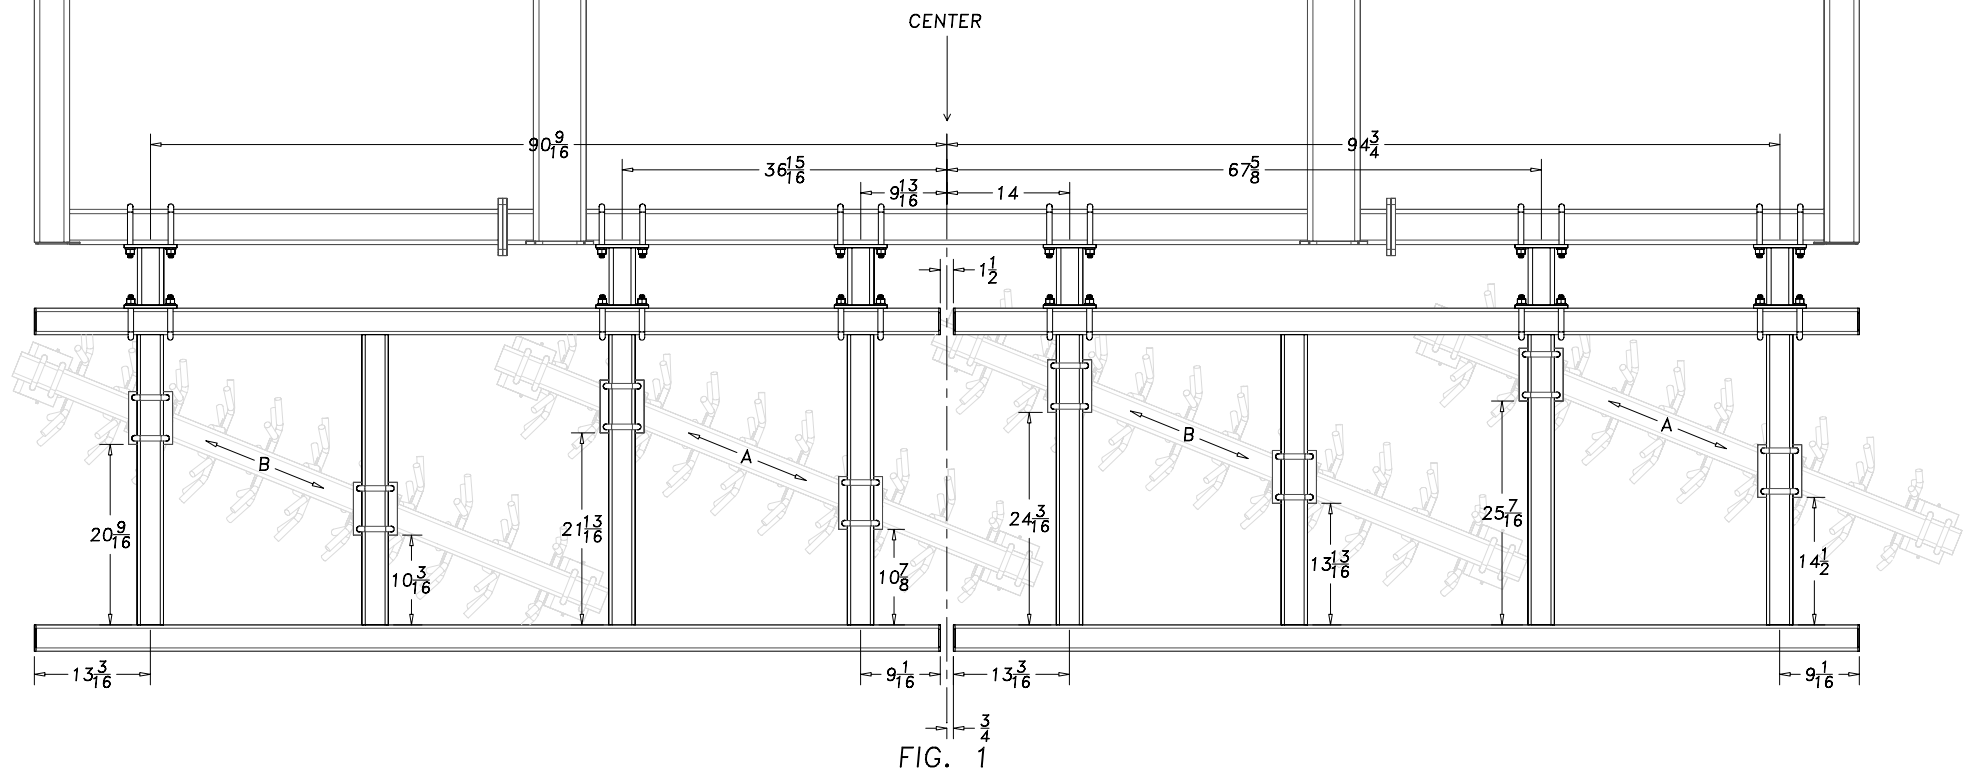

FIG. 1
Your initial action is to bolt the rolling harrow drop extensions [(62) 589-128H] to the back 4x4 tube on the Verti-Till with 5/8x4x5 ½ U-Bolts [(63) 806-184C] 5/8" hex nuts [(25) 803-021C] and 5/8" lock washers [(26) 804-022C]. Be sure to place them as shown in Figure 1. Do not tighten these bolts at this time. Your next step is to U-Bolt the drag frame(s) [(61) 589-129H or 589-130H] to the drop extensions. Be sure everything is placed in the correct dimensions and tighten everything down at this time.
The rolling harrow gangs shown in figure 2, come to you partially assembled. To finish assembly, refer to the table in figure 2 and assemble accordingly. Start by locating the correct rolling harrow tube, center it over your partial assembly on the bearing hangers [(52) 589-142H], and mount the tube using 5/8x3x4 ½ U-bolts [(44) 806-183C] with a lock washer and nut. Your next step is to locate the ball joint assemblies [(59) 589-064H]. Figure 2 shows you the dimensions to mount the ball joint assemblies on the rolling harrow tube. Count the number of each assembly in figure 1 and assemble accordingly.
Mount the rolling harrow brackets [(60) 589-057H] to the under side of the drag frames according to the dimensions in figure 1, using a 5/8x3x4 ½ U-bolt [(44) 806-183C] with a lock washer and nut. You may tighten the U-bolts on all the brackets that are closest to the rear of the machine. Leave the front brackets loose to slide until the rolling harrow assemblies are hung under the frame. Use the 1x4 hex bolt and 1" nylock nut through the harrow brackets (589-057H) and ball joint assemblies [(59) 589-064H] to hang the rolling harrow assemblies under the frame. Be careful to put the proper gang in the proper location and be sure that the assemblies are oriented correctly as shown in figure 2. When all gangs are hung under the frame, tighten the remaining U-bolts.